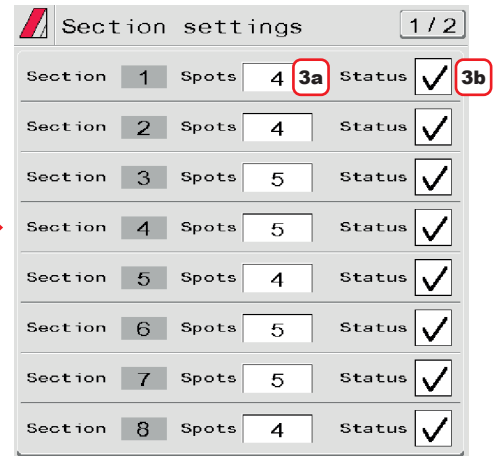

Fig. 41
- 3a Repeat the setup for each section (Fig. 41).